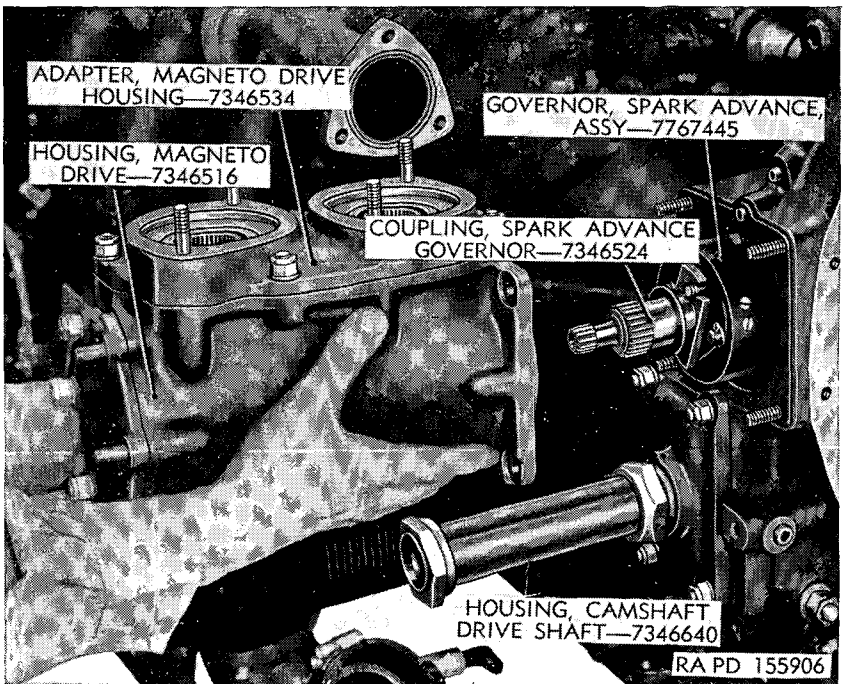

Figure 36. Removing magneto drive housing and drive assembly.
- (1) Remove the magneto drive housing assembly (fig. 36) by removing the jam nuts, plain nuts, and plain washers holding it to the accessory case. Lift the assembly from the studs and discard the flat gasket and "O" ring gasket.